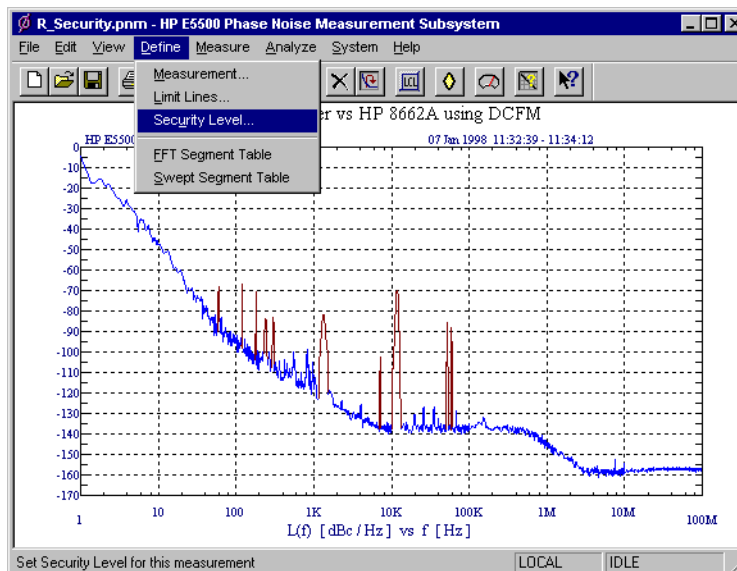

Figure 16-10 Navigate to Security Level
- 1 From the Define Menu, choose Security Level. See Figure 16-10.